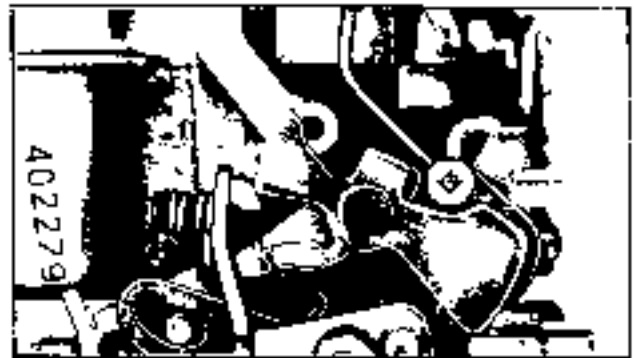

Figure 6C-138
12. Reinstall vacuum break assembly and choke cover. Ensure choke spring correctly engages choke actuating lever. Screw retaining ring in place, ensuring arrow on choke cover points to specified index mark (Fig. 6C-139).